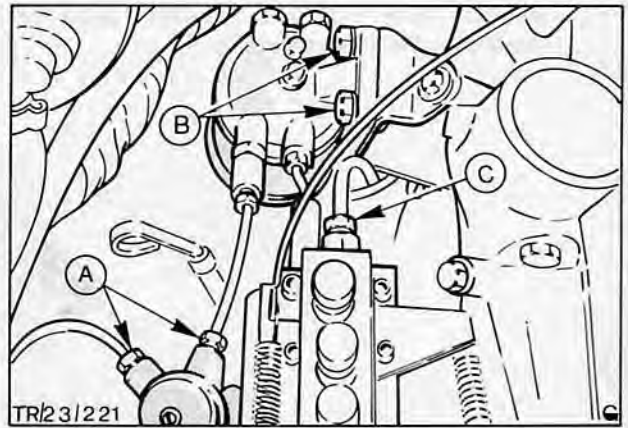

Fig. 43. Fuel filter assembly
12. Disconnect fuel lift pump inlet and outlet pipes, and injection pump to filter pipe, Fig. 43.
13. Remove 2 bolts and detach fuel filter assembly, Fig. 43.